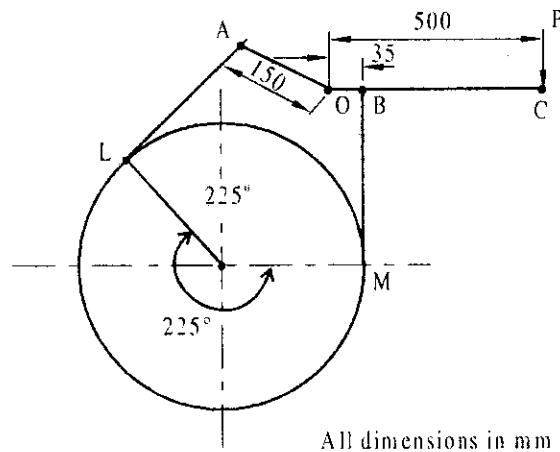

Fig. Q.6(b)
- b. A differential band brake as shown in Fig.Q.6(b), has an angle of contact of  $225^\circ$ . The band has a compressed woven lining and bears against a cast iron drum of 350mm diameter. The brake is to sustain a torque of 350 N.m. and the co-efficient of friction between the band and the drum is 0.3. Find: